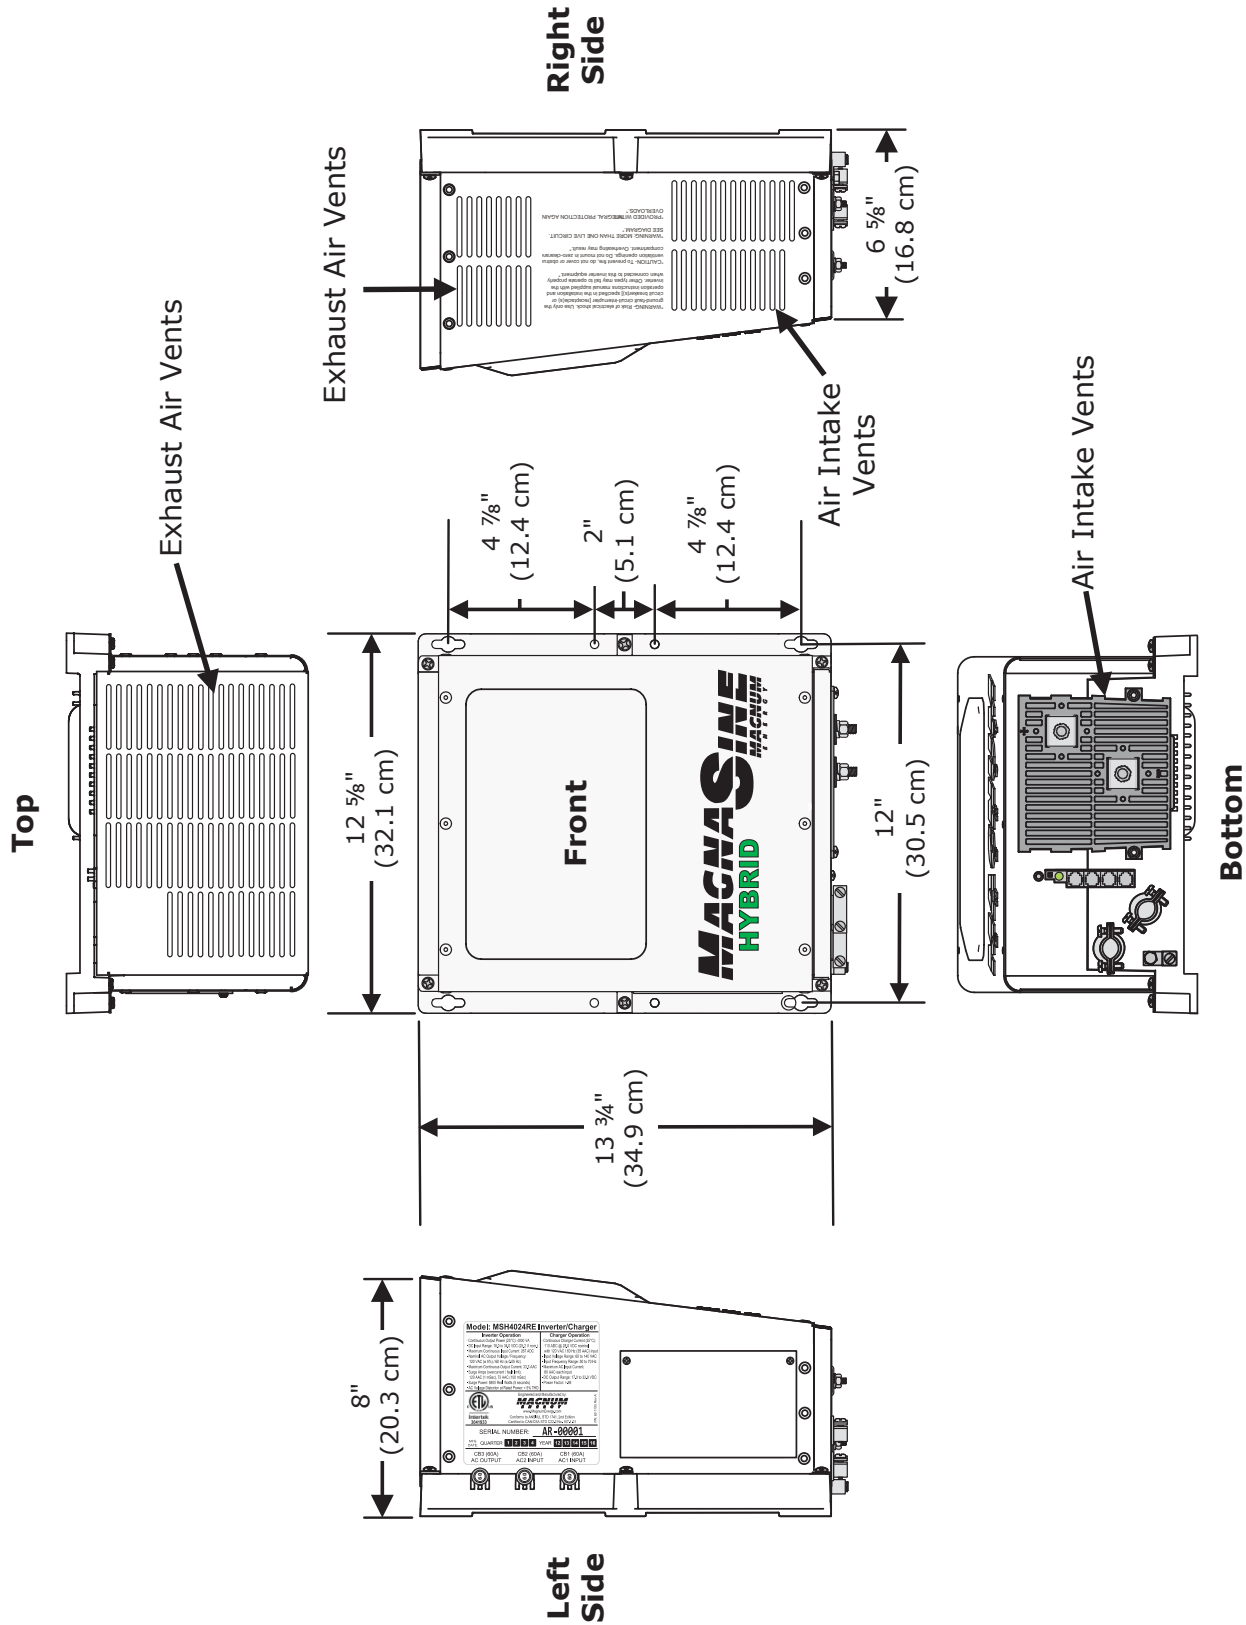

Figure 2-3, MSH4024RE Dimensions and Side Reference
- 9 **Intake Air Vents** – ventilation openings to pull in air to help keep the inverter cool for peak performance. The intake air vents are located on the front side and at the front on the right side; see Figure 2-3 for the locations of the air vents.
- 13 **Exhaust Air Vents** – ventilation openings that allow heated air to be removed by the internal cooling fan. The exhaust air vents are located on the back side and at the rear on the right side; see Figure 2-3 for the location of the air vents.
**Accessible** – Do not block access to the inverter’s remote control and accessory ports, as well as the inverter’s controls and status indicator. Allow enough room to access the AC and DC wiring terminals and connections, as they will need to be checked and tightened periodically. See Figure 2-3 for the MSH-RE Series inverter/charger’s dimensions.
After determining the mounting position, refer to the physical dimensions as shown in Figure 2-3, or use the base of the inverter as a template to mark your mounting screw locations. After marking the mounting screw locations, mount the unit with appropriate mounting hardware.